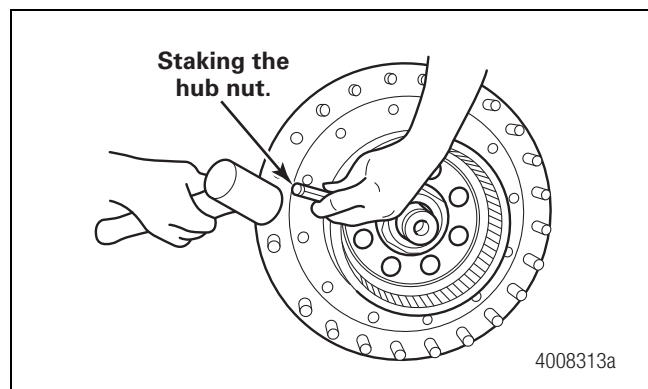
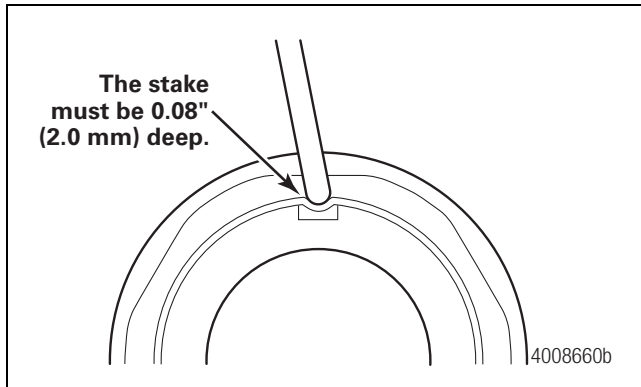

Figure 13.5
Figure 13.6
9. Use a hammer and drift to stake the nut into the spindle slots in two places. Figure 13.5 and Figure 13.6.